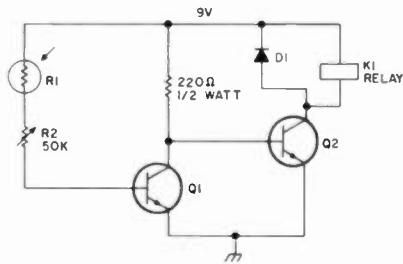
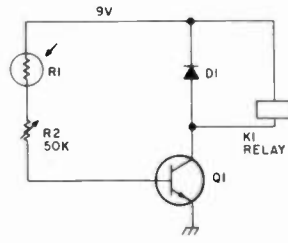

Fig. 1.
Fig. 2.
**LIGHT-ACTIVATED RELAY:** Fig. 1 shows a circuit which will trip relay K1 when the light-sensitive resistor R1 is in the darkness. A buzzer can be attached to K1 to indicate that the lights have dimmed. Any small signal diode can be used for D1, which suppresses the high-current inductive kickback, thus protecting Q2. Any NPN transistor can be used for Q1 and Q2. R1 is a cadmium-sulphide resistor which has 5 megohms resistance in darkness and 100 Ohms' in bright light. The resistor can be located away from the rest of the circuit. Fig. 2 is a light-activated relay; the same components are used as in Fig. 1. A power supply circuit is shown in Fig. 3. R1 is a one-Watt resistor valued between 200-500 Ohms. —Alan Weinberg KR7D, Tucson AZ.